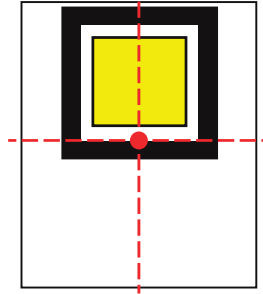

Figure 11. Pick-up position and nozzle scheme used for LUXEON Altilon Intense.
1. The pick-up area is defined in Figure 11.